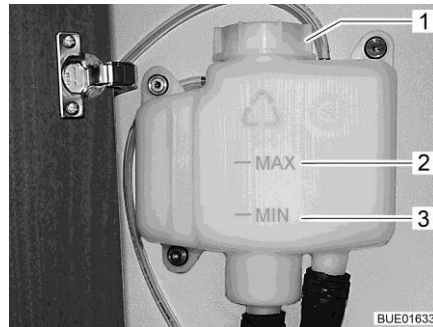

Fig. 286 Compensator reservoir without panel
- Check if the fluid level is between the marks "MIN" (Fig. 286,3) and "MAX" (Fig. 286,2) on the compensator reservoir (Fig. 286).
- Open the rotary lid (Fig. 286,1) on the compensator reservoir.